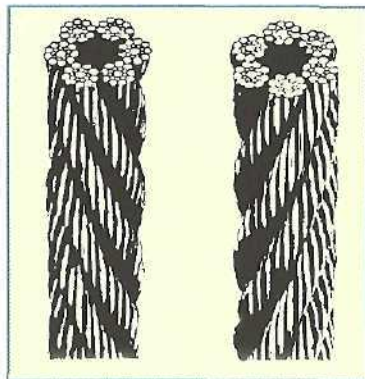

Fig. 15 Ordinary Lay
**Ordinary Lay (Fig. 15)** - a method of making a rope where the lay of the wires in the strand is opposite to the lay of the strands in the rope.